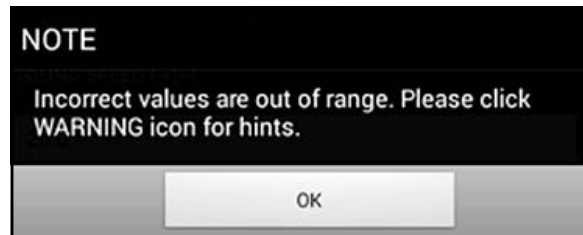

Figure 136: Out of Limits Message
7. There is an acceptable range for each of the parameters entered in this menu. If you enter a value outside of these limits a message similar to *Figure 136* below is displayed.